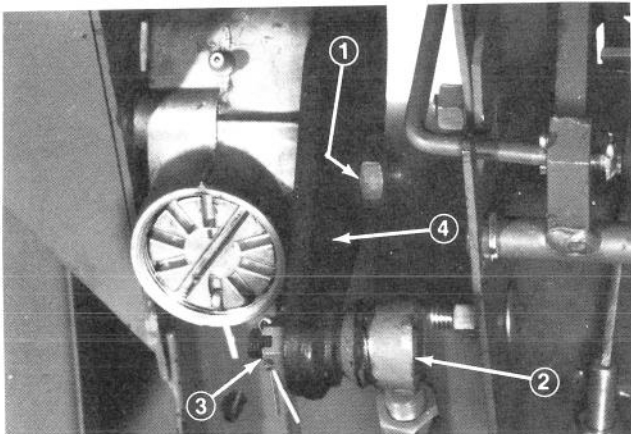

Figure 64
4. Locate jam nut and lever stud at left side of steering gear (Fig. 64). Insert screwdriver into stud slot and loosen jam nut.
1. Remove cotter pin and slotted nut from tapered socket that connects steering rod and steering arm. Separate tapered socket from steering arm (Fig. 64).